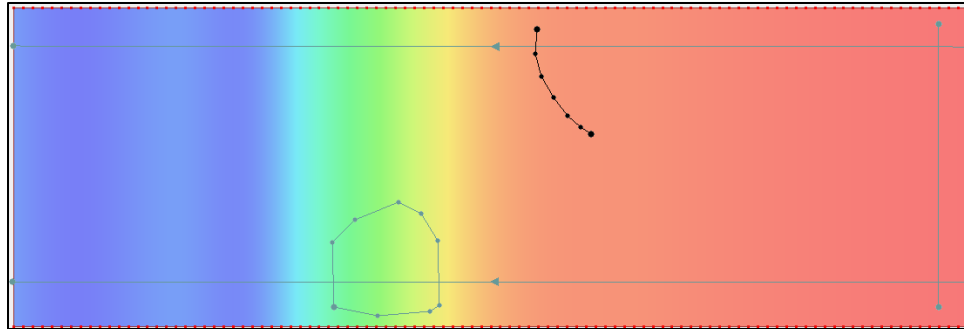

Figure 11 Arc for a reef or buoy probe, crossing the upper transect
2. Using the **Create Feature Arc**  tool, create an arc in the area where the manually placed probe is desired, as shown in Figure 11.